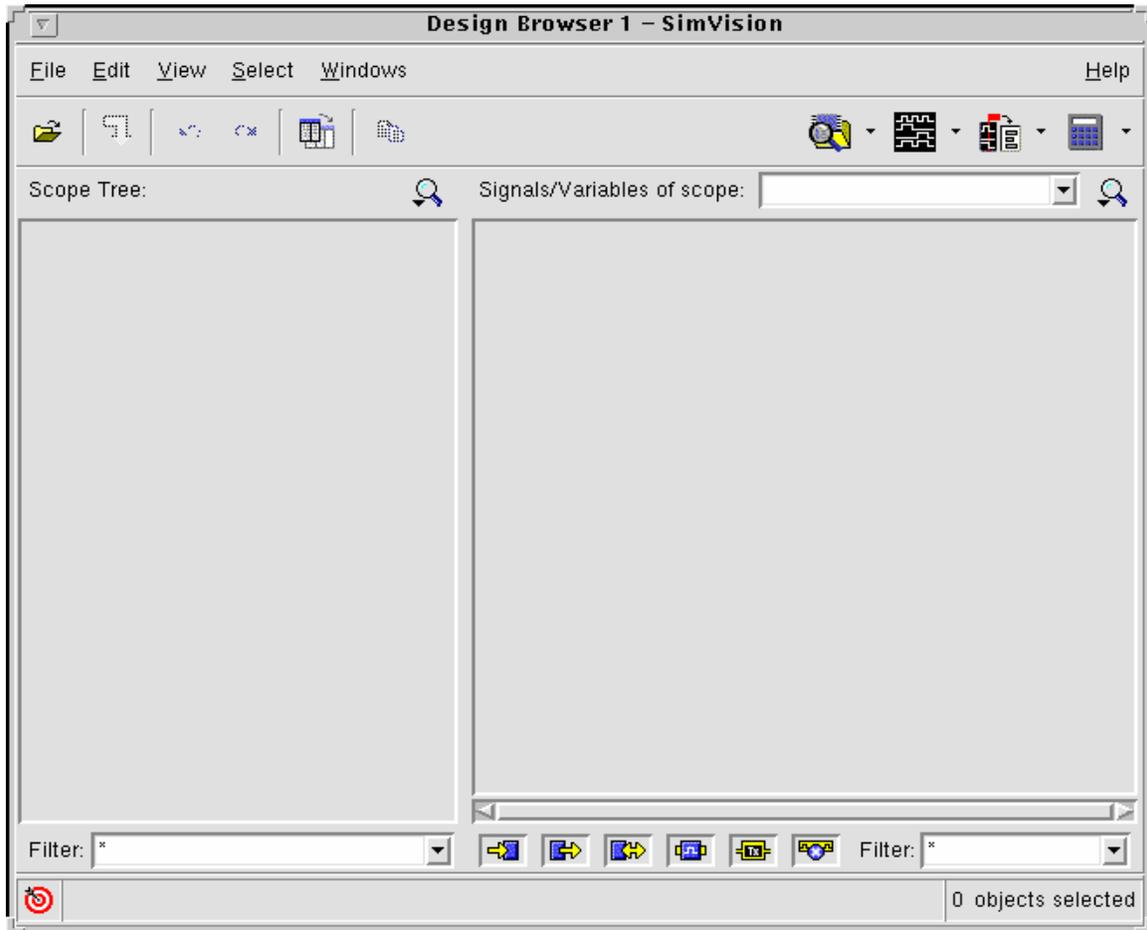
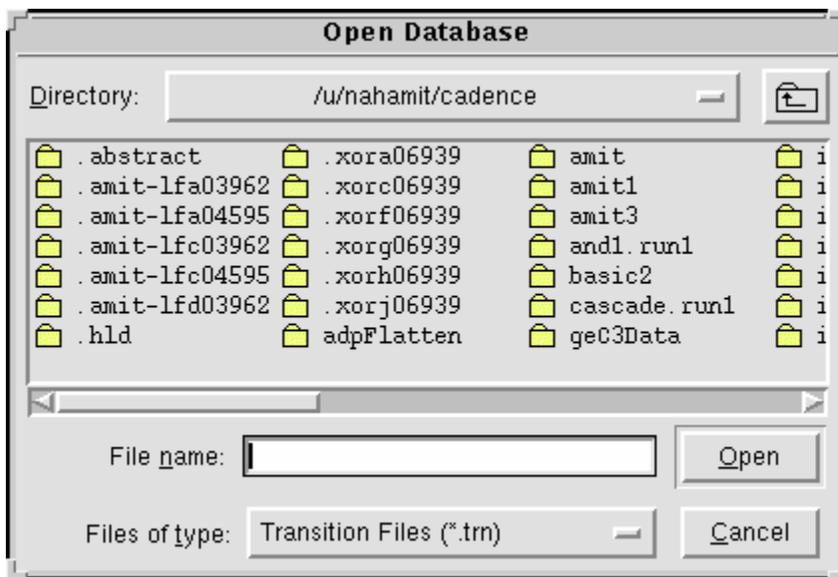
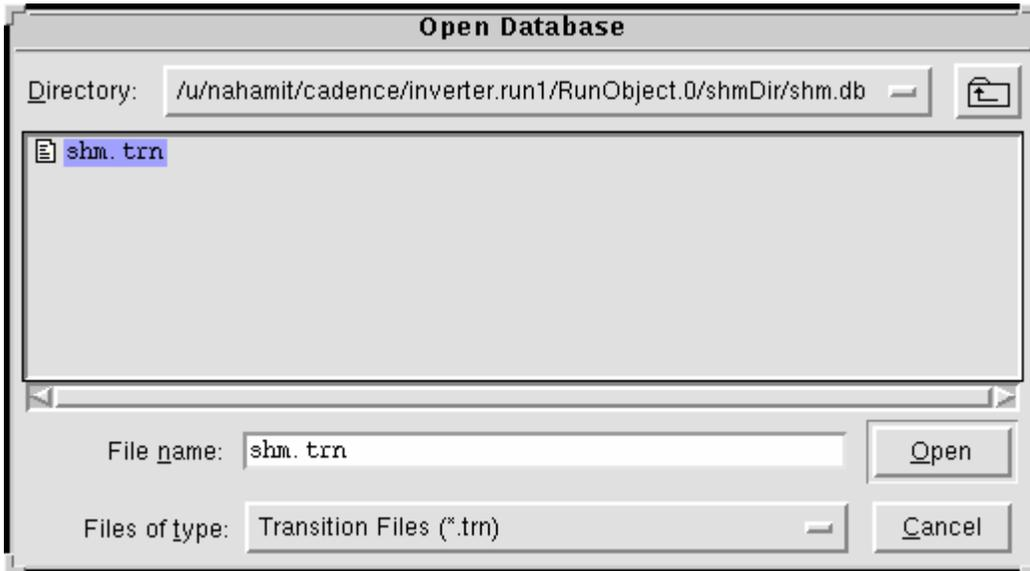

Fig 15: SimVision
Fig 16: Open Database
Fig 17: Selecting the file
- b. On clicking **View Waveforms** a Logic Verification tool **SimVision** opens as shown in Fig 15.
- c. In Fig 15 click **File** -> **Open Database**. The “Open Database” window opens as shown in Fig 16.
- d. In Fig 16 browse to `../inverter.run1/RunObject.0/shmDir/shm.db/` and select the file `shm.trn` as shown in Fig 17.
- e. In Fig 17 click **Open**.